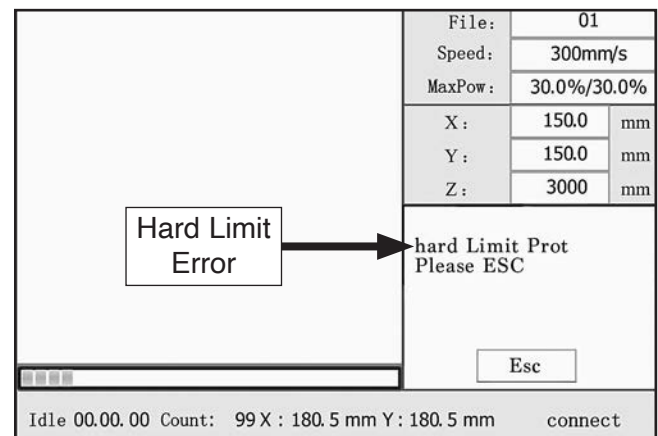

Figure 25. Example of screen displaying hard limit error.
9. Press right arrow nav button (➡) on control panel until laser head assembly activates X-axis limit/proximity switch. Verify "hard Limit Prot" error is displayed and further axis movement is suspended (see **Figure 25**).